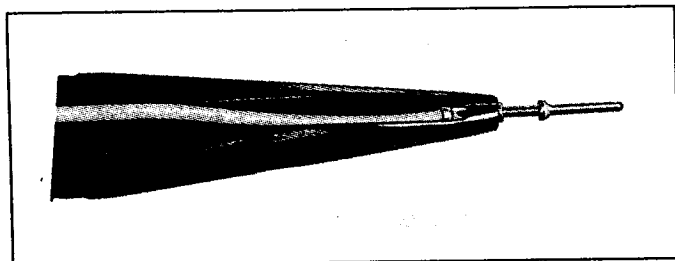

Figure 3
- d. Remove and reposition the plier tips against the shoulder nearest the wire-well end of the contact. See figure 3. Insert the contact to its "fully-seated" position.